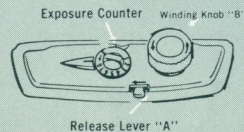

FIG. 3
**No. 6** —To make the next picture, move the Lever "A" (see Fig. 3) to the left in the direction of its arrow and release. Turn the film winding knob until the lock re-engages indicating that the film is in position for picture No. 2. Continue the sequence until all the exposures have been made. After the last exposure, move lever "A" to the left and release. The knob will then turn freely permitting the roll to be completely wound through. After removing the full spool from the right side of the carriage and wrapping to protect it before processing, switch the empty spool to take-up chamber making the carriage ready for reloading.